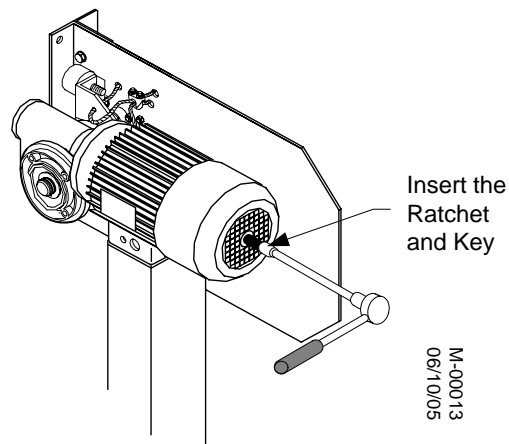

Figure 4-23: Curtain through Drive
2. Insert the ratchet and key into the drive motor fan opening. See Figure 4-23.